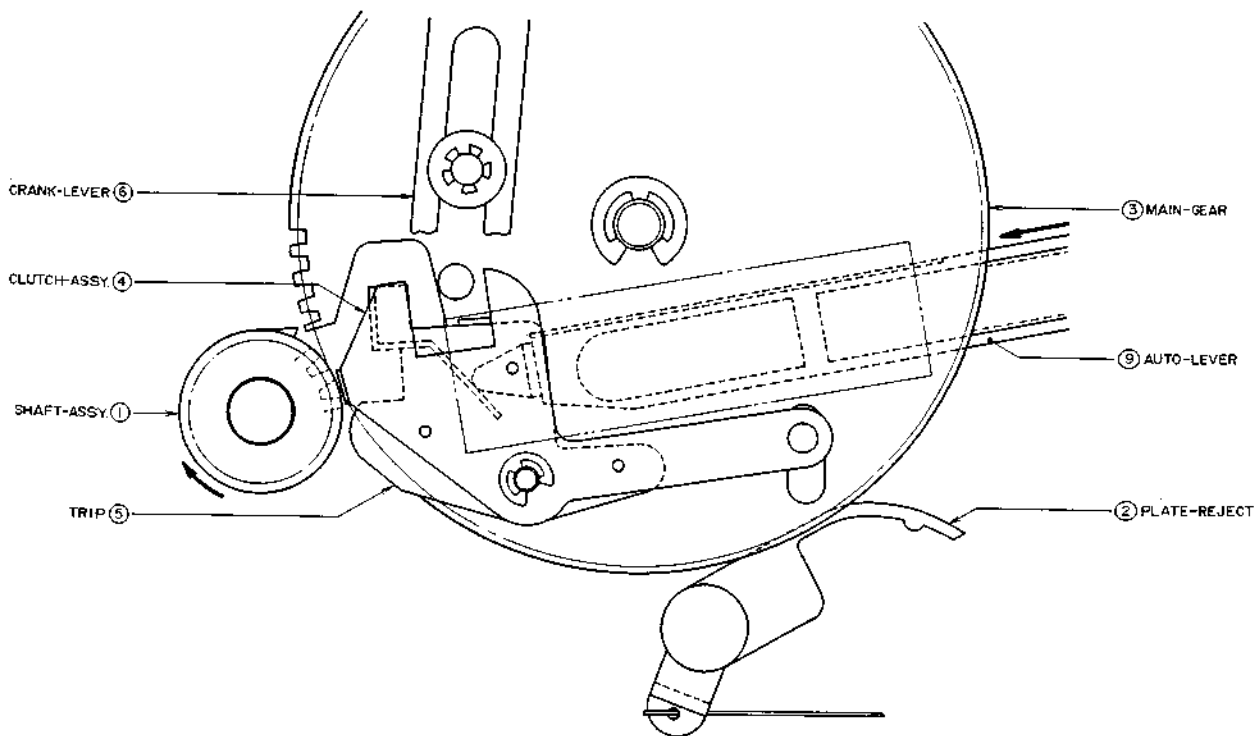
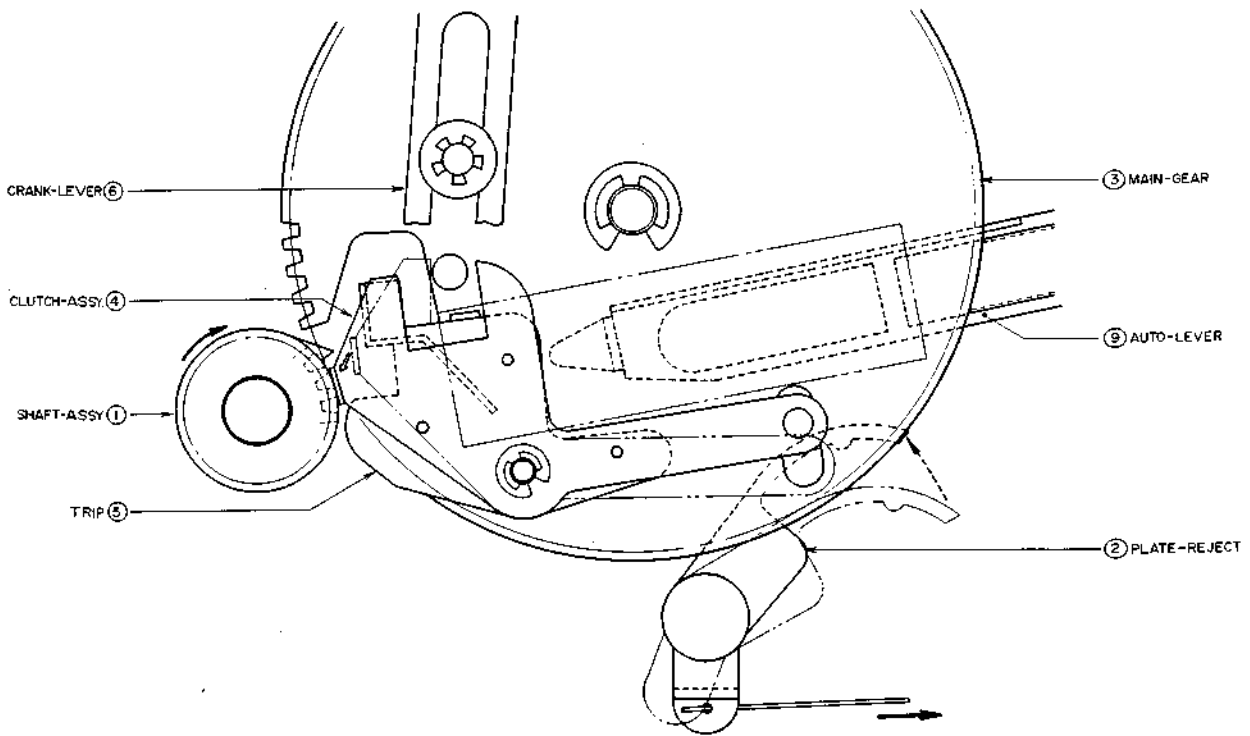

Fig. 5 PICK UP ARM STYLUS TIP IN VICINITY OF 126 ϕ
Fig. 13 FORCE CUT
In due time the pick up stylus finishes sound groove tracing and about the time it enters the lead-out groove, the tip of AUTO-LEVER (9) begins to push the skirt part of TRIP (5) and the CLUTCH ASSY (4) which rides lightly on this part is pushed out toward the TABLE SHAFT ASSY (1) (shown in Fig. 5, when the pick up stylus is at a about 126 mm position from the turntable).
When listening to a record and you wish to stop in the middle of a performance, or when playing a record not according to specifications, and the stylus tip has advanced to the last groove, simply bring the cut lever forward. This moves PLATE REJECT 2 which pushes PLATE JOINT (13), then POLE REJECT (15) and ultimately CLUTCH ASSY (4) is pushed as shown in Fig. 13. (\leftarrow mark). Then return operation commences and the power source is turned OFF (Refer to Item 1 above and Fig. 5).